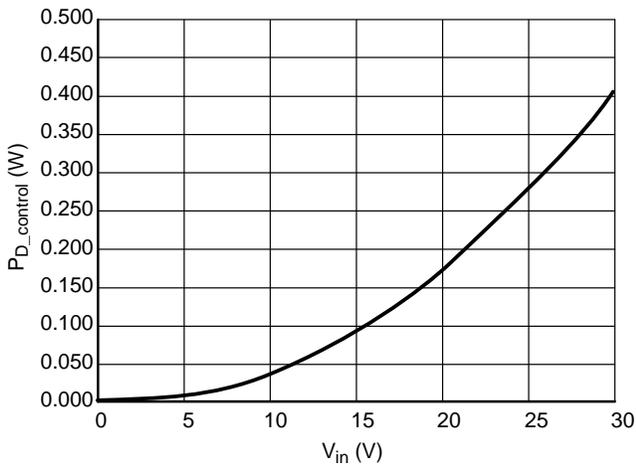
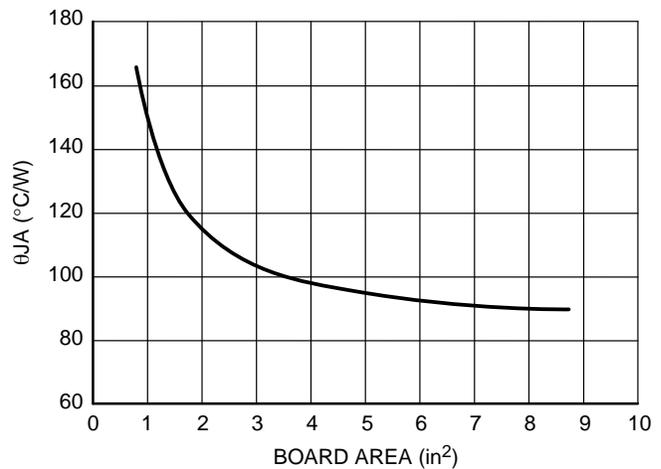

Figure 5. Power Dissipation vs. V_{in} for the NUD4001
Figure 4. θ_{JA} versus Board Area
5. Calculate the power dissipation in the NUD4001 control circuitry based on the information in Figure 4 of the data sheet.
There will be some additional current flowing through the NUD4001 due to the external resistor R2 and Schottky diode D1. A good estimate is to take 1.1 times the value shown in Figure 5 as being the new internal power dissipation in the control section of the NUD4001.
8. Calculate the heatsink requirements for the NUD4001 based on the information in Figure 11 in the data sheet. This graph is reproduced as Figure 5 in this paper. From Figure 4, the worst case $R_{\theta JA} = 170^\circ\text{C/W}$ with minimum board area.